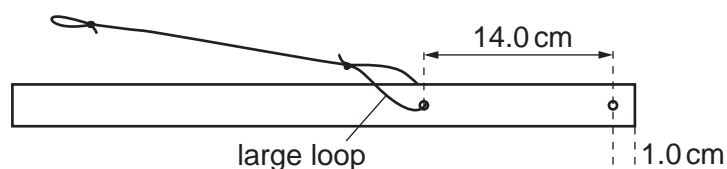

Fig. 1.1
- 1 Drill two 3 mm holes in the half-metre rule, as shown in Fig. 1.1.
- 2 Tie one end of the string through the hole at 15 cm, using a large loop (using 8 cm of the string, as shown in Fig. 1.1). Tie a smaller loop in the other end (for the candidate to attach the mass hanger).